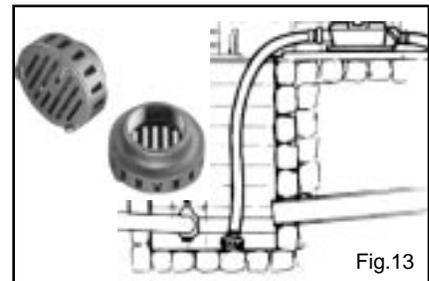

Fig.13
- **USING A STRAINER ON THE INLET** - If the solids are too large they will block the inlet or get stuck in the suction line. The end of a suction hose can become attached to a flat surface cutting off all flow. Using an Edson strainer will prevent these conditions. Order an Edson Shattedproof Bronze Strainer 111BR - 400 See Fig.13